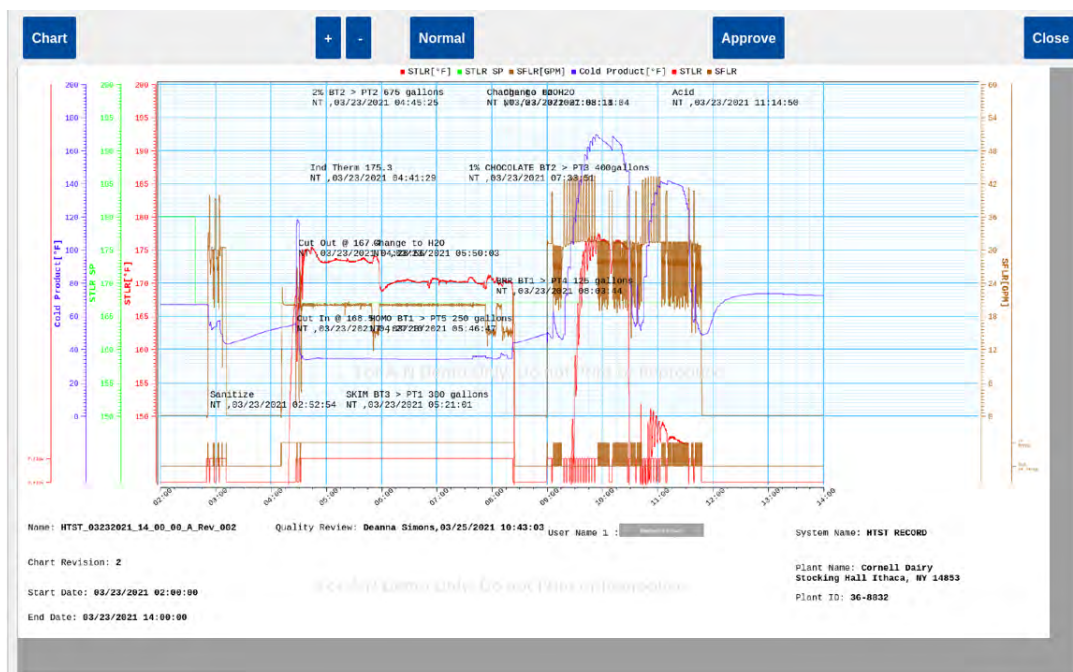

Figure 63: Record Image On PPR
4. A screen will appear like the one shown in Figure 63 above.